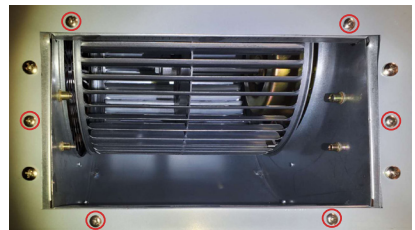

Figure 1
- Remove the smaller screws alongside the vent opening on the hood body (**Figure 1**).